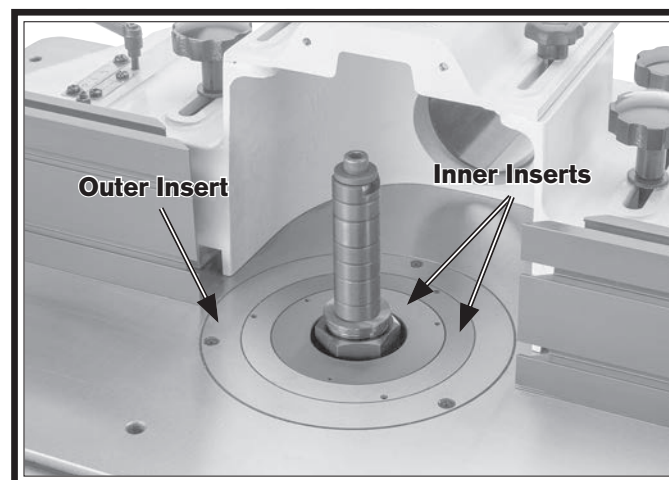

Figure 16. Location of two inner inserts (front cutter guard removed for clarity).
1. Remove (2) inner inserts from table opening (see **Figure 16**).